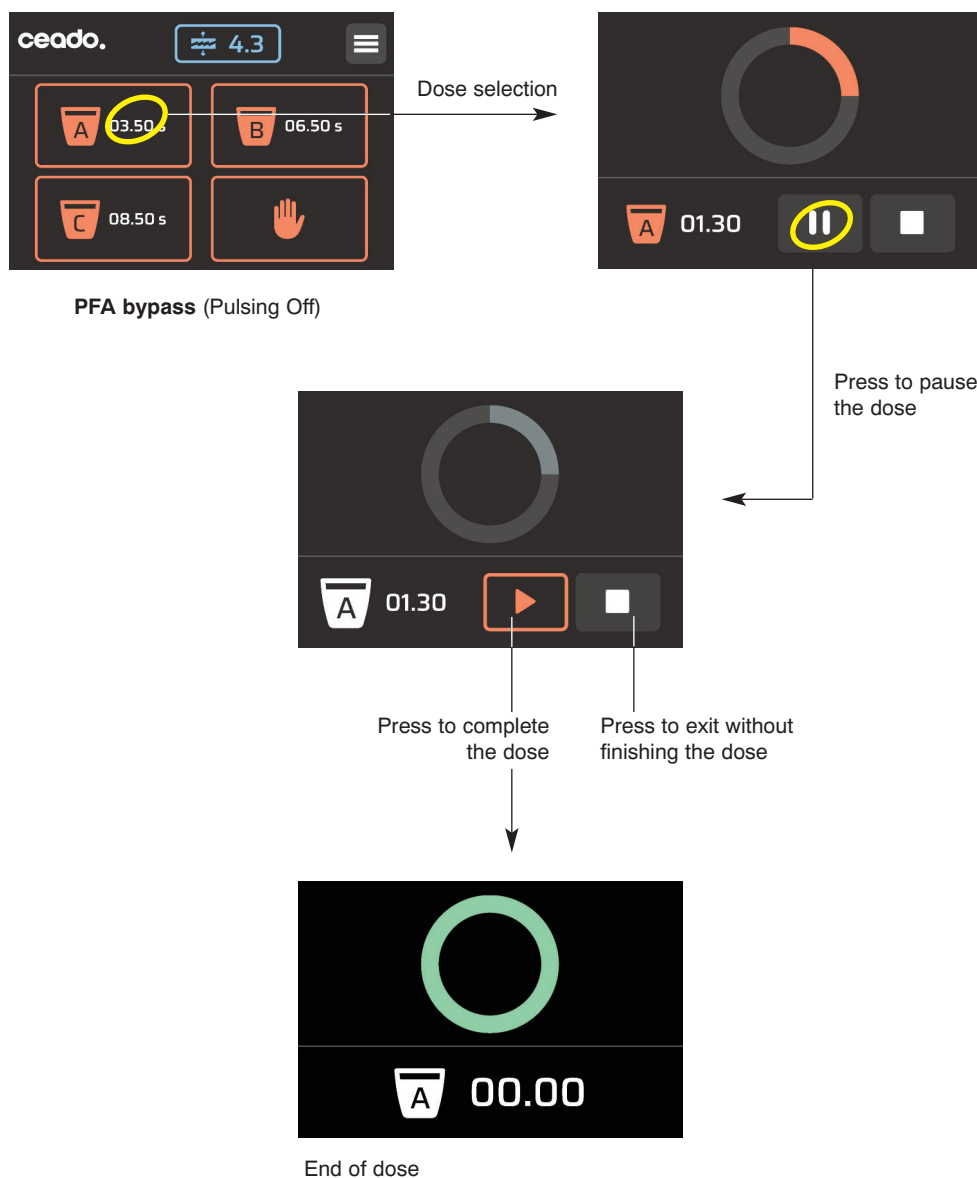

Fig. 4
- 2 Turn the ON-OFF switch to position "I" (12 Fig. 2). The control panel display (4 Fig. 1) lights up (see Fig. 4).
Automatic operation with start button (if present): "PFA bypass" mode (Fig. 4)